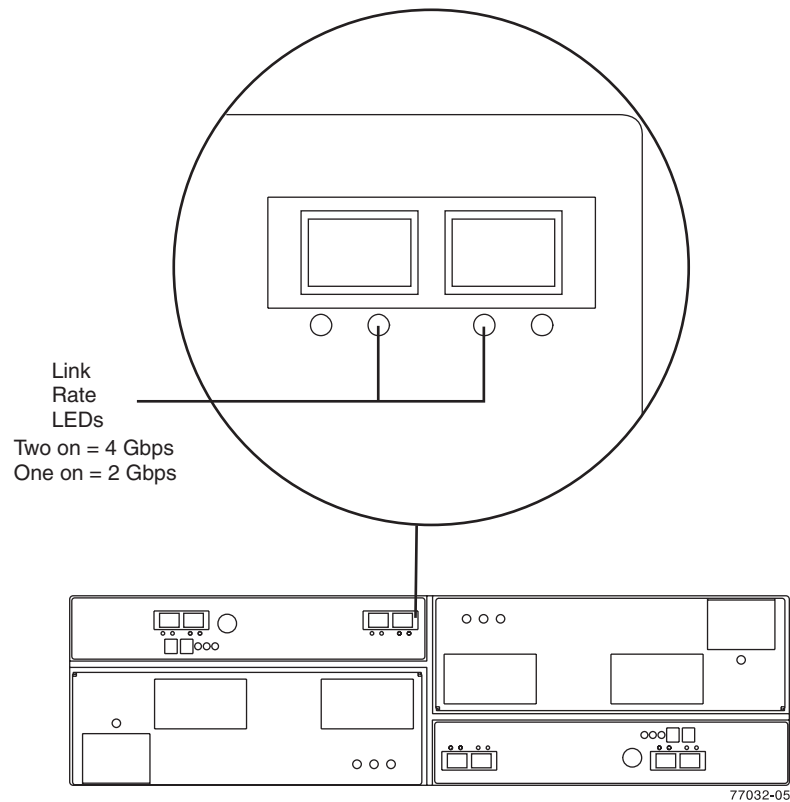

Figure 58. Link rate LEDs
2. Locate the Link Rate indicator LEDs. Figure 58 shows the location of the Link Rate indicator lights on the back of the storage expansion enclosure.
4. Locate the Link Rate switch. Figure 58 shows the location of the Link Rate indicator light on the front of the command module.